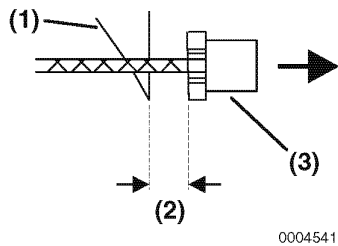

Figure 4-20
4. To check the adjustment of the cable. Set the speed control lever in the RUN position (**Figure 4-19, (10)**) then lightly pull out on the inner cable (**Figure 4-20, (3)**) and check the free play. The correct free play is 0 - 0.5mm (**Figure 4-20, (2)**) between the cable end and the stop lever (**Figure 4-20, (1)**). To adjust the free play, thread the cable adjustment nuts (**Figure 4-18, (4)**) forward or back to obtain the correct free play and tighten once the correct free play is achieved.